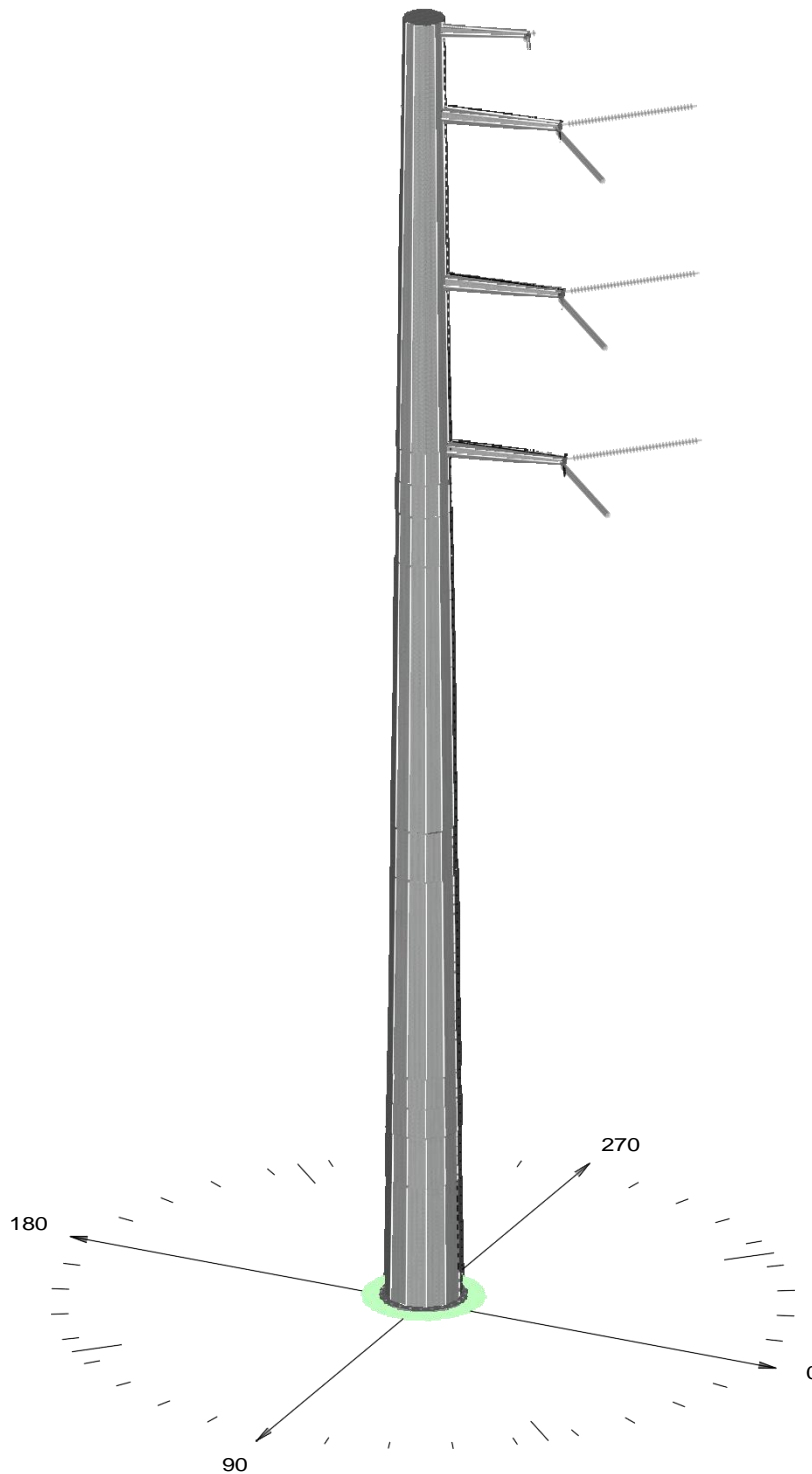

FIGURE G-12
- Figure G-12: Single-Circuit 230 kV Single-Pole, Dead-End, Delta Configuration on Davit Arms with Strain Insulators